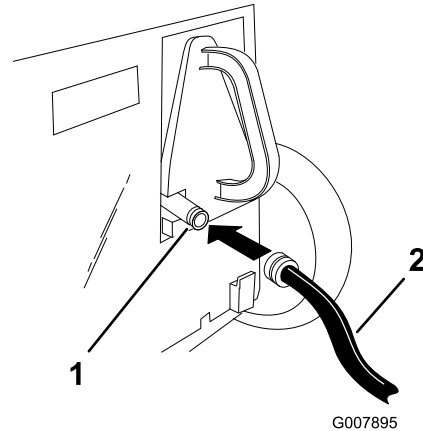

Figure 24
3. Lift the rear door and attach the coupling to the lawn mower washout fitting on the recycling plug (Figure 24).